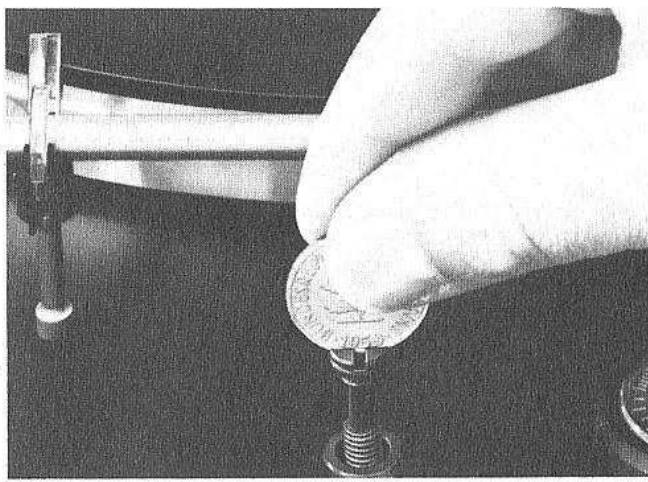
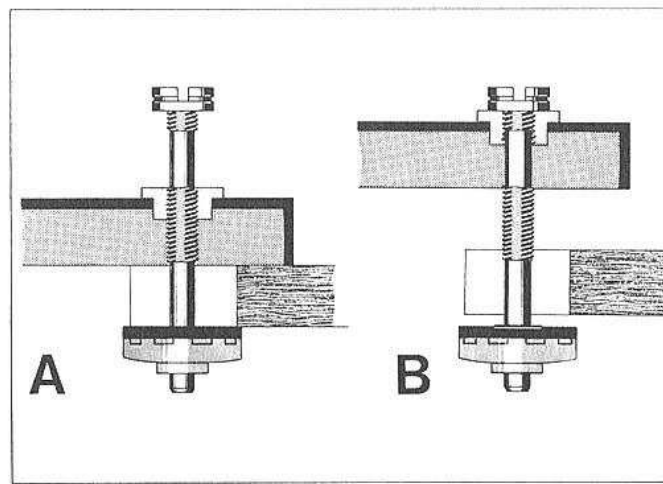

Fig. 1
Fig. 2
To release the transport locking screw (fig. 1) turn these in clockwise direction until they slide down approximately 15 mm and then tighten these by turning them further in clockwise direction. In this way, the record player is spring-mounted in playing position (fig. 2/ B).
- Loosen transport safety bolt by turning it counterclockwise, then pull it up and continue turning until tight (fig. 2/A).